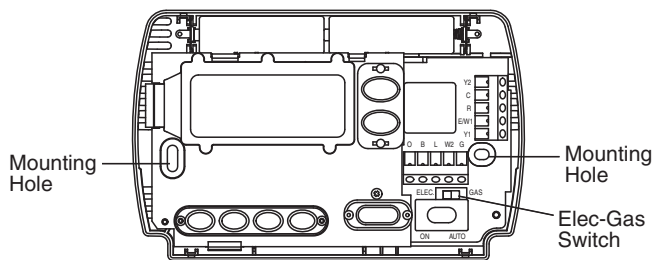

Figure 1 – Thermostat base
5. Fasten base loosely to wall, as shown in fig. 1, using two mounting screws. Place a level against bottom of base, adjust until level, and then tighten screws. (Leveling is for appearance only and will not affect thermostat operation.) If you are using existing mounting holes, or if holes drilled are too large and do not allow you to tighten base snugly, use plastic screw anchors to secure subbase.
This thermostat is configured from the factory to operate a heat/cool, fossil fuel (gas, oil, etc.), forced air system. It is configured correctly for any system that DOES NOT require the thermostat to energize the fan on a call for heat. If you system is an electric heat or heat-pump system that REQUIRES the thermostat to turn on the fan on a call for heat, locate the ELEC/GAS switch on the back of the thermostat (see fig. 1) and switch it to the **ELEC** position. This will allow the thermostat to energize the fan immediately on a call for heat. If you are unsure if the heating/cooling system requires the thermostat to control the fan, contact a qualified heating and air conditioning service person.
If "**BATT**" is displayed, the batteries are low and should be replaced. For best results, replace all batteries with new premium brand alkaline batteries such as Duracell® or Energizer®. To replace batteries, press system button to **OFF**, install the batteries along the top of the base (see Fig. 1). The batteries must be installed with the positive (+) end to the left.